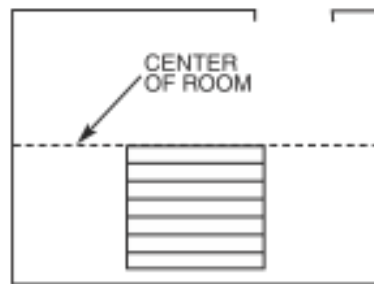

Figure 1 - Dry layout to determine width of border plank
- Determine which direction the planks will run. Find the center of each of the end walls (the walls perpendicular to the long dimension of the planks) and place a pencil mark on the floor. Connect these points by striking a chalk line down the center of the room (Figure 1). Do a dry layout of planks from the center line to the wall running parallel to the long direction of the planks to determine the width of the last row of planks (Figure 1).